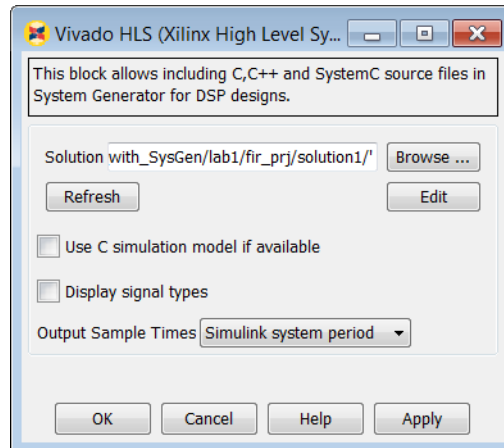

Figure 11-8: Selecting the FIR IP Block
9. Click **OK** to load the IP block, as shown in Figure 11-8.